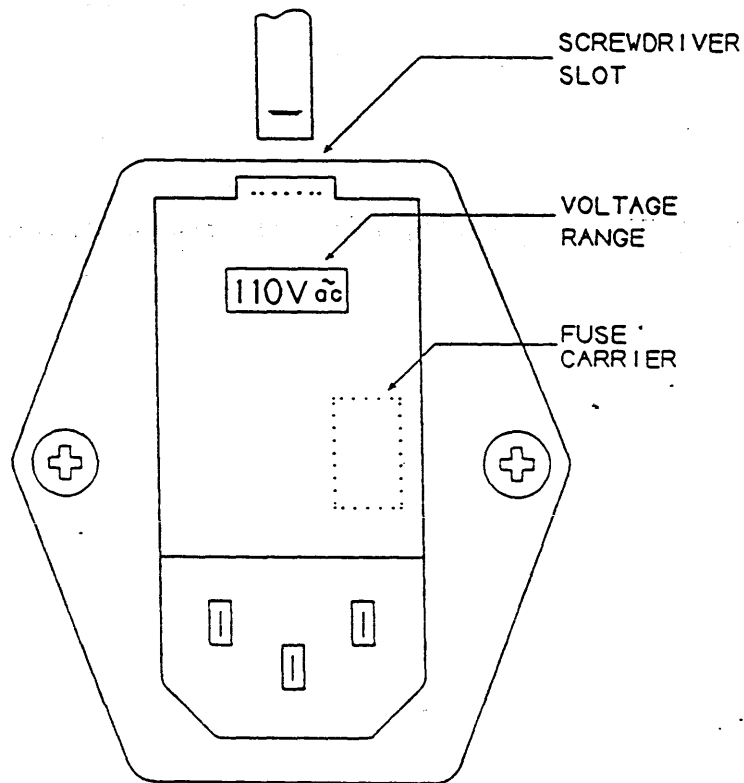

FIGURE 4.2.1 VOLTAGE SELECTION
- (ii) (see Figure 4.2.1) insert a flat-bladed (5 mm) screwdriver where illustrated and hinge the panel open;